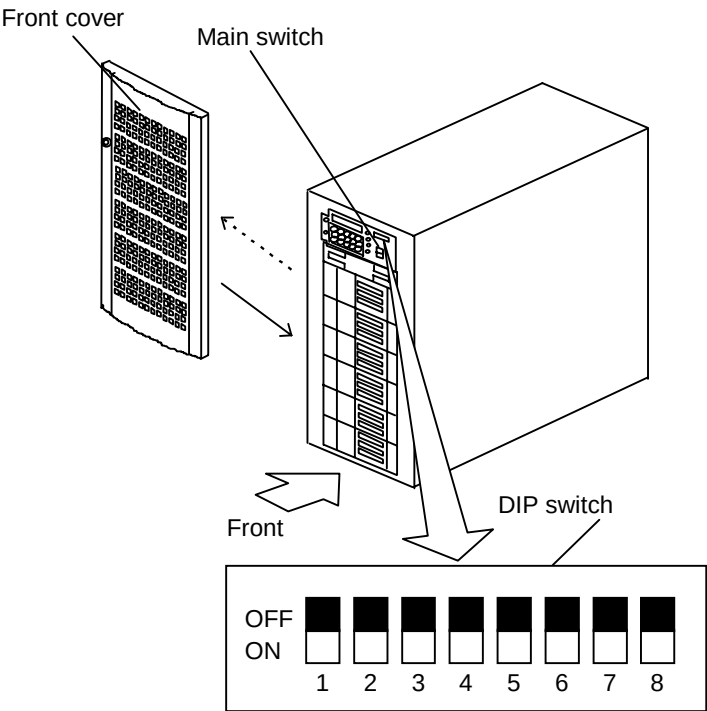

Figure 3.3.3 Front Construction of the Subsystem
- (4) Remove the front cover. (See Figure 3.3.3.)
- (5) Make sure that all of DIP switches are set to "OFF". (upper positions)
- (6) Set the circuit breaker to "I" (ON). Then turn the power switch "ON".
- (7) Make sure that the subsystem becomes ready a few minutes later.
- (8) Attach the front cover.